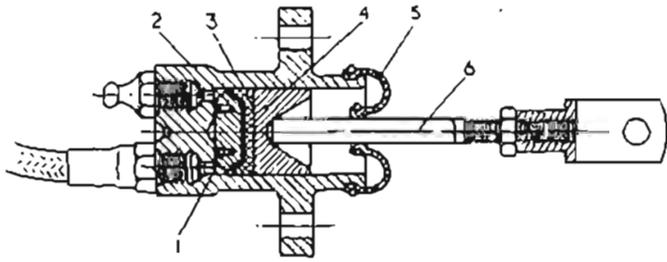

Fig. 4 Sectional View of Slave Cylinder. 1 Spring, 2 Cup Filler, 3 Rubber Cup, 4 Piston, 5 Rubber Boot, 6 Fork assembly.
20. DISMANTLING THE SLAVE CYLINDER (Fig. 4)